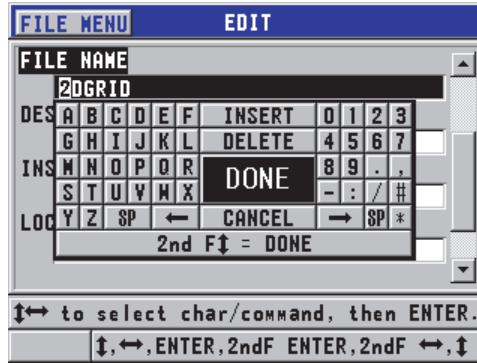

Figure 6-29 Entering new file information
2. In the **EDIT** screen (see Figure 6-29 on page 110):